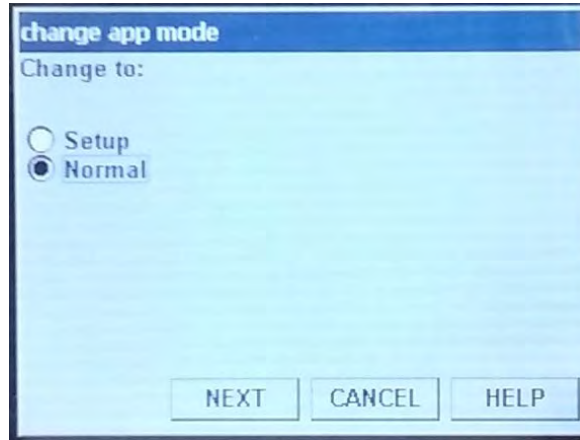

Figure 103 App Mode Selection
6. Select **Next** and the *Change to* screen appears (Figure 103).